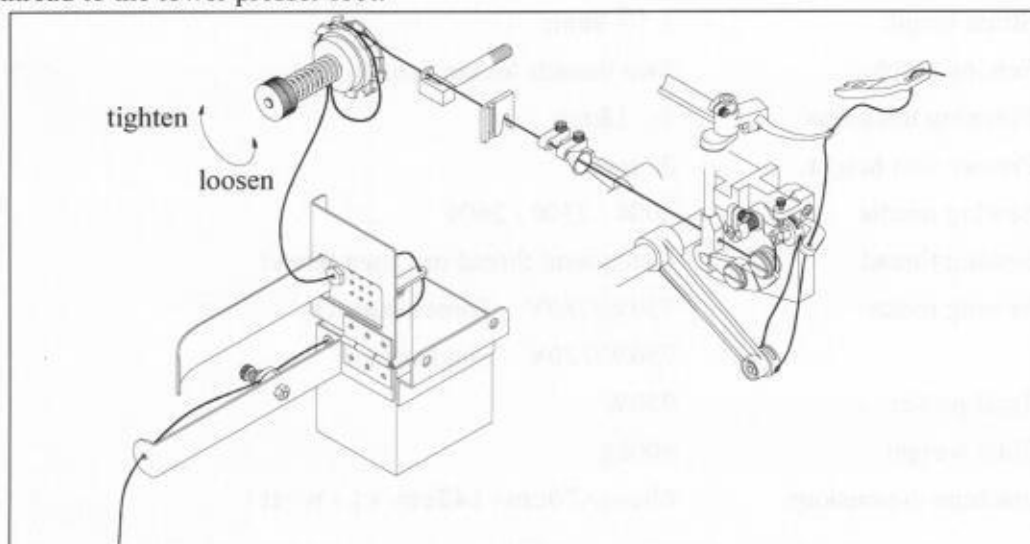

Fig.2
3.4 Threading the lower thread as indicated in Fig.2, the thread guider is used to introduce the thread to the lower presser foot.
4.7.2 Rotate the adjusting knob to set the tension of lower thread. (as shown in Fig.2)